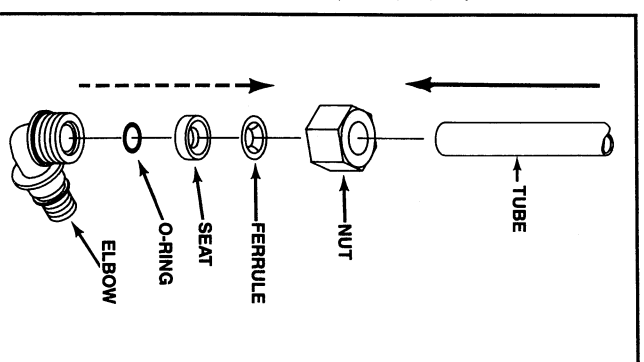

FIG. 6
5. Install the other end of the tube into the top filter fitting. Loosen the nut on the fitting leaving three or four threads exposed. Moisten the tube end with water and push the tube through the nut assembly (Fig. 6) until it bottoms in the elbow. Then hand tighten the nut.
If servicing is necessary the ferrule can be removed from the tubing by cutting the tube behind the ferrule and sliding it off in the direction of the dashed arrow (Fig. 6). Forcing the ferrule in the opposite direction will damage it and may result in cut fingers.